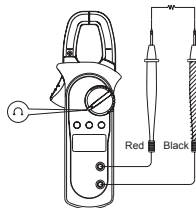

Figure 4
B. Measuring Resistance (See Figure 4)